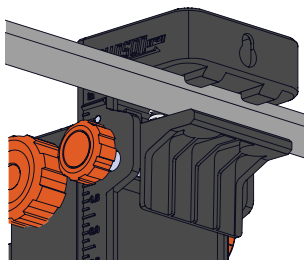

Figure 30
3. Place the track mount accessory onto a track, making sure the clamp is fully seated over the track. Tighten the smaller adjustment knob to secure the track mount accessory to the track. (Figure 30)